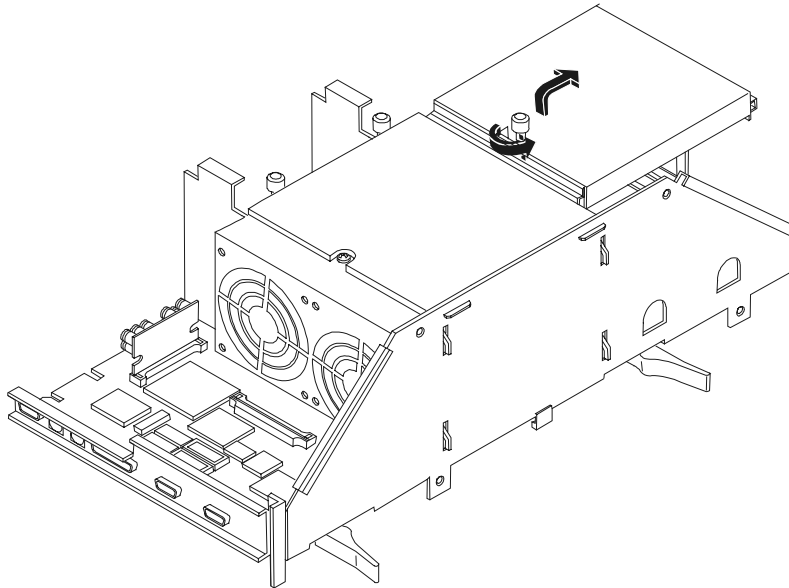

**Figure 3-3. Installing Processors in Processor Cage**
1. Position the LH 4 CPU baseboard, as shown in Figure 3-3, on an anti-static mat.
3. Open the levers at the top of the processor, as shown in Figure 3-3.
6. Open the levers on the second processor, insert it into the slot immediately above the first processor, as shown in Figure 3-3, and close the levers.